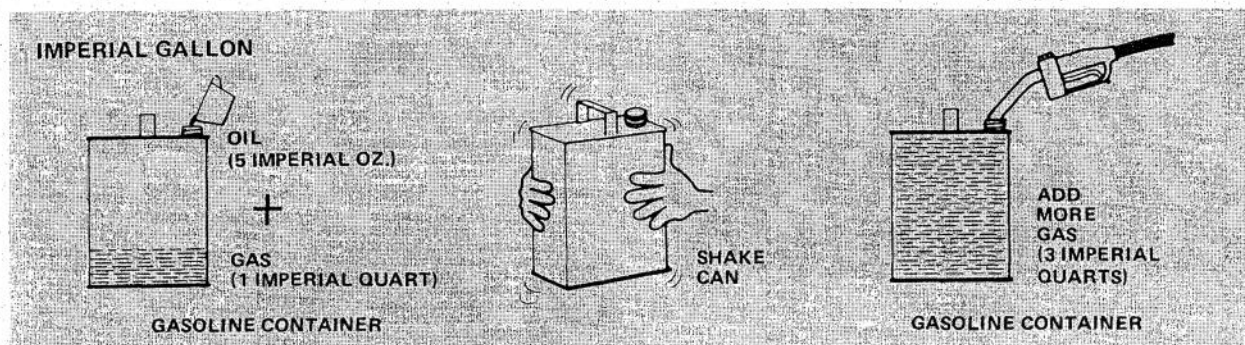

Figure 7B
1. Add 1 Imperial quart of leaded REGULAR or unleaded gasoline to a gasoline container (Fig. 7B).
2. Pour 5 Imperial oz. of two cycle engine oil into the gasoline container (Fig. 7B). DO NOT use multi-viscosity oils.
3. Shake the gasoline container vigorously so oil mixes with gasoline (Fig. 7B). Remember to install cap on gasoline container before shaking.
4. Add an additional 3 Imperial quarts of gasoline to the gasoline container (Fig. 7B).